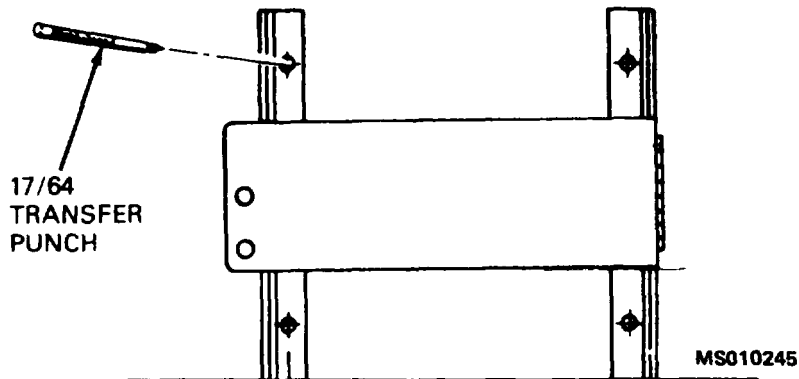

FIGURE 3-2. MOUNTING HOLE LOCATION
b. Locate a drill center for the upper left mounting hole by striking 17/64 diameter transfer punch hard to make a deep impression (reference figure 3-2).